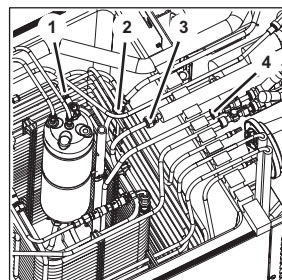

Figure 86
5. Disconnect the CO₂-IN line from the coupling (Figure 86/1).
6. Disconnect the connecting line from carbonator pump 1 to pre-cooling coil 1 from the coupling (Figure 86/3).
7. Disconnect the connecting line from carbonator pump 2 to pre-cooling coil 2 from the coupling (Figure 86/2).
8. Disconnect the soda water line to the circulation pump from the push-in fitting (Figure 86/4).
23. Attach the soda water line to the circulation pump to the push-in fitting (Figure 86/4).
24. Attach the connecting line from carbonator pump 2 to pre-cooling coil 2 to the coupling (Figure 86/2).
25. Attach the connecting line from carbonator pump 1 to pre-cooling coil 1 to the coupling (Figure 86/3).
26. Attach the CO₂-IN line to the coupling (Figure 86/1).